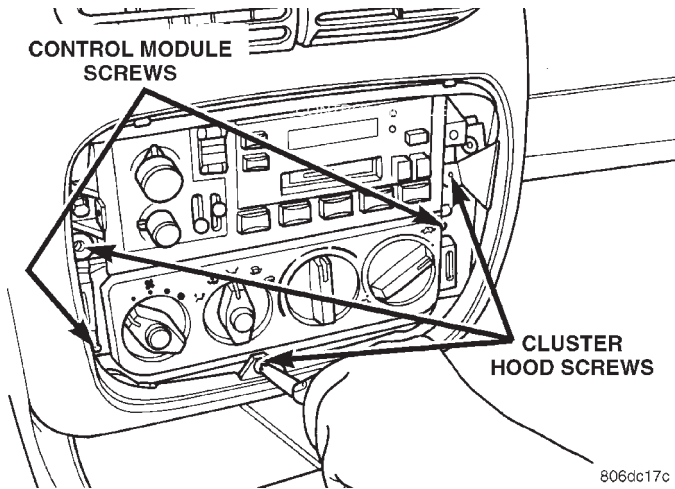

Fig. 30 Control Module Screws
(3) Remove cluster hood bezel retaining screws in the trim bezel opening (Fig. 30).